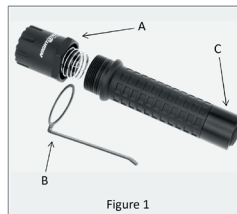

Figure 1
1. Remove the pocket clip (Figure 1-B) by unscrewing and removing the light bezel (Figure 1-A).
2. Reinstall the light bezel (Figure 1-A).
3. Remove the tail cap switch (Figure 1-C). NOTE: Keep the tail cap switch and pocket clip for future use for the light is to be converted back to a conventional tactical flashlight.